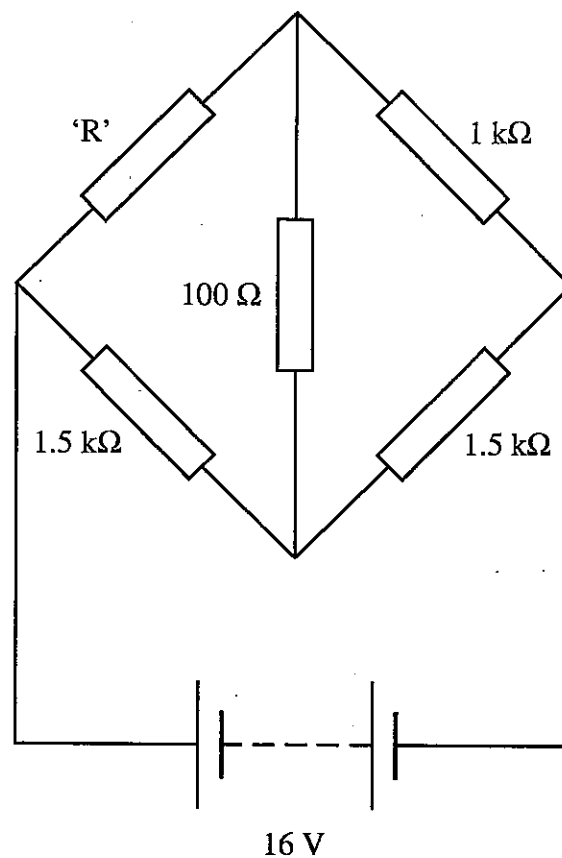

Fig Q1
1. In the network shown in Fig Q1 the current in the  $100\Omega$  resistor is 2 mA in the direction shown.